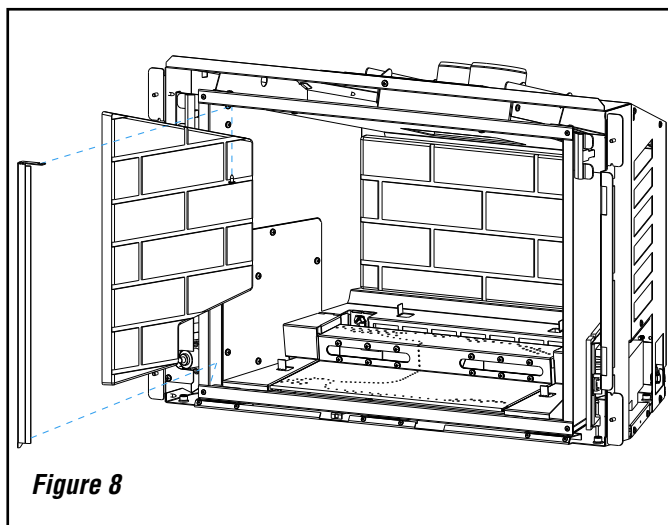

Figure 8
2. Remove the long refractory liner panel retaining brackets from the front sides of the firebox (**Figure 8**).
4. One at a time, install the side liner panels by sliding them into place (**Figures 8 and 9**).
- 5a. Brick patterned liner panels: using the long retaining brackets, insert the bottom tab behind the lower front edge of the fire box and secure the top with a #8 x 3/8" Phillips screw provided with this manual (**Figure 8**).